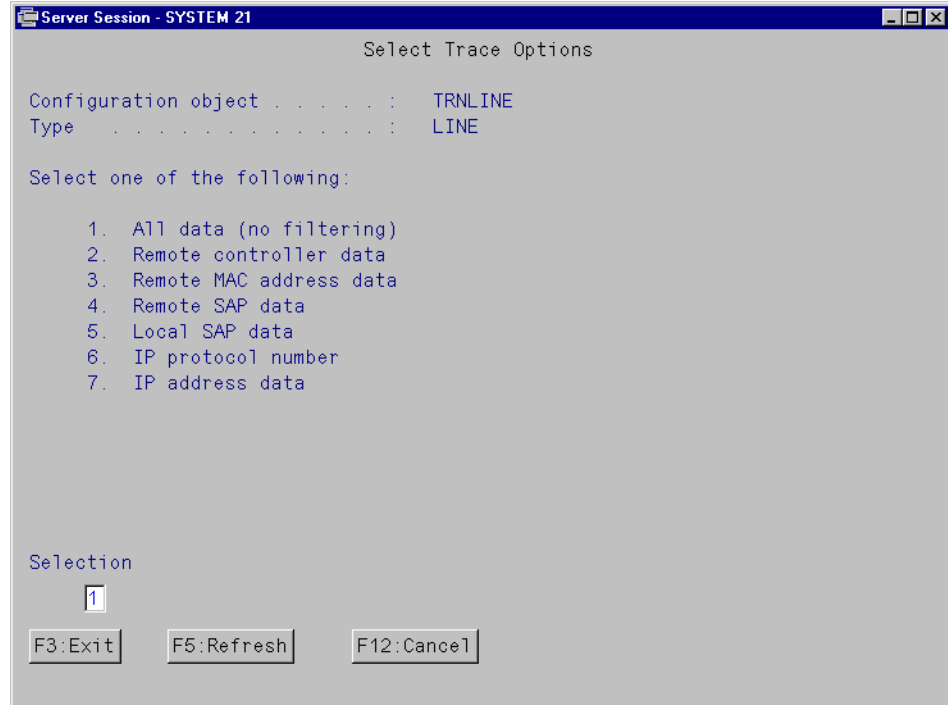

Figure 197. Select Trace Options (V4R1 or higher releases)
5. You are prompted for Trace Options as shown in Figure 197.